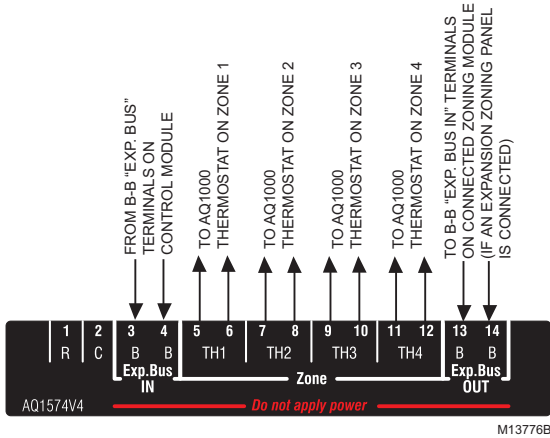

Fig. 8 Connecting AQ1000 Thermostats
- Using low voltage thermostat wire, connect one AQ1000 communicating thermostat from each zone to the corresponding "TH" inputs on top of the Zoning Module (Figure 8).